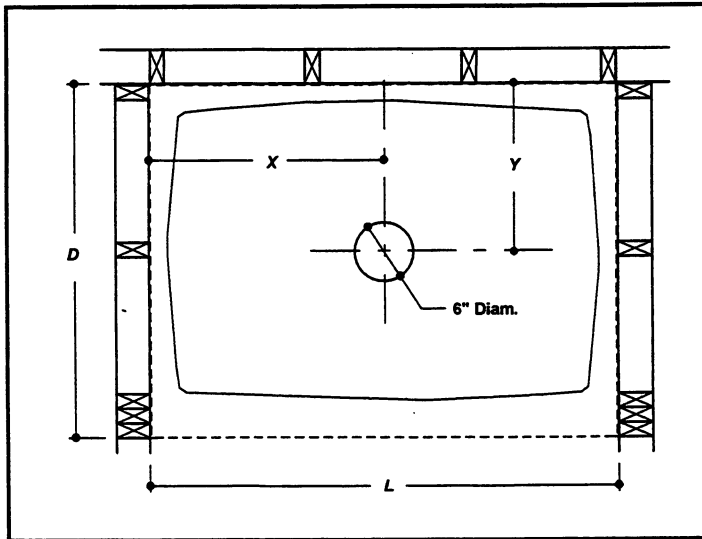

Fig. 2
- Step 3. Locate, mark and cut a 6" - 7" diameter hole in the floor for the floor drain (See Fig. 2 or 3).